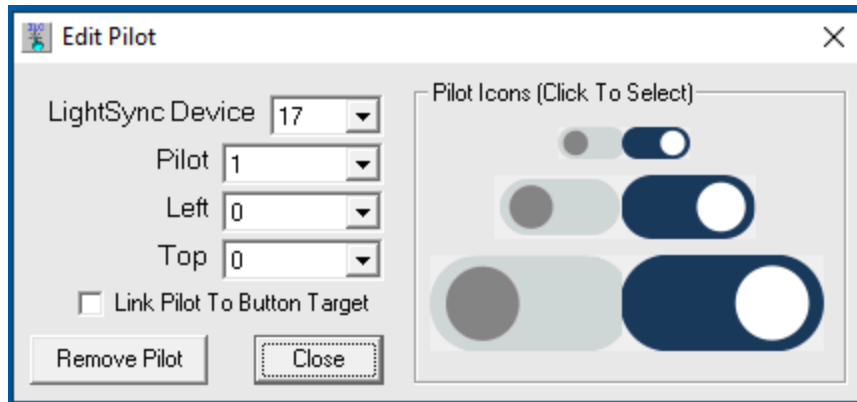

Figure 6 Edit Pilot Options
2.5 Adding Status Pilots: Status pilot indicators placed on the screen indicates the true status of a relay, LightLEEDer Group, LightLEEDer Scene last selected or LightLEEDer Preset state. These pilots are mapped to the LightSync device pilot. The displayed icon will change from Gray (off) to Dark Blue(On) with the toggle circle moving left to right. Refer to Figure 6 . Pilots can also be linked to an input as a target type for full status and control, touching the status icon will act in the same way as a button.
2. Click on one of the 6 pilot icons desired for your status indication as shown in Figure 6.